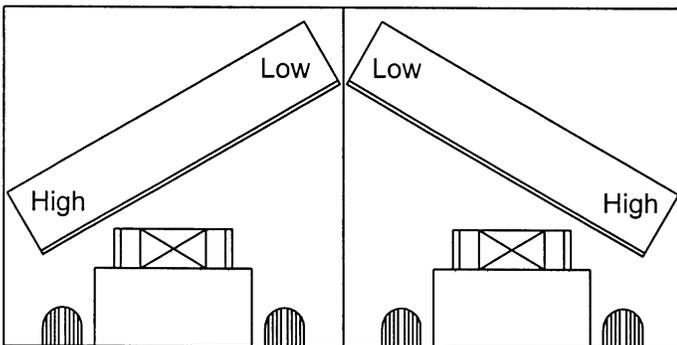

Figure 15
- Figure 15, retract tilt cylinders.